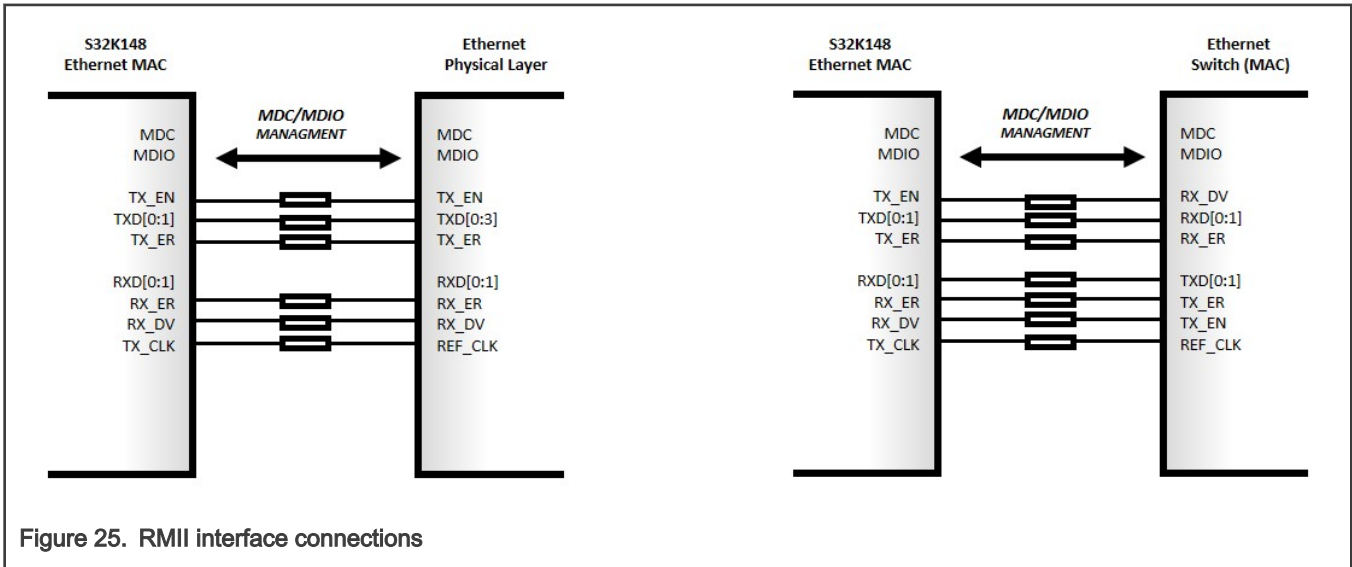

Figure 25. RMII interface connections
**RMII signaling:** RMII data is exchanged via 2-bit data signals TXD[1:0] and RXD[1:0] as shown in Figure 25. Transmit and receive signals are synchronous with the shared reference clock, REF\_CLK.